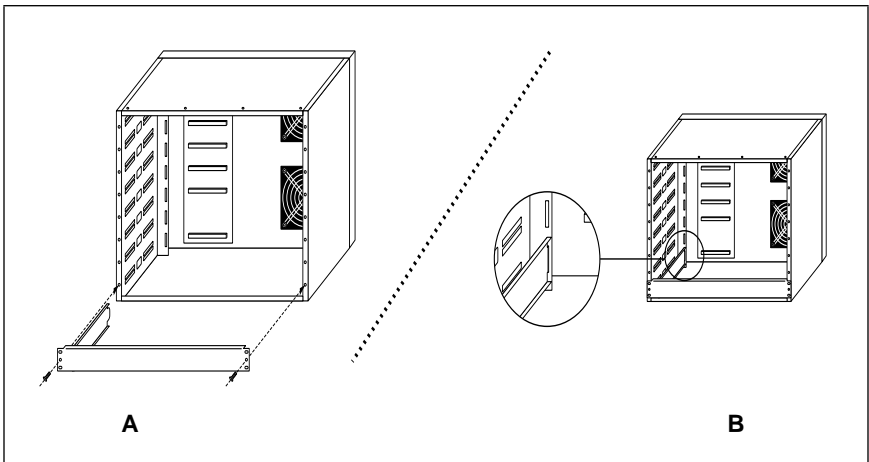

Figure 14: Attaching the Faceplate/Air-Dam to an Empty Slot
1. Align the faceplate/air-dam as shown in Part A of Figure 14.
See detail in Part B of Figure 14.